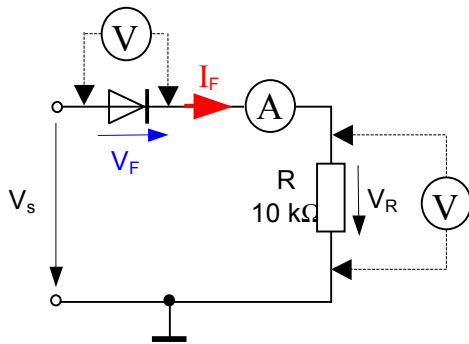

Fig. 1.5
1. Use your favourite circuit simulation software and simulate the circuit in Fig 1.5. Set the input voltage to the values: 0.5V, 0.7V, 1V, 5V, and record the diode voltage and current in each case.